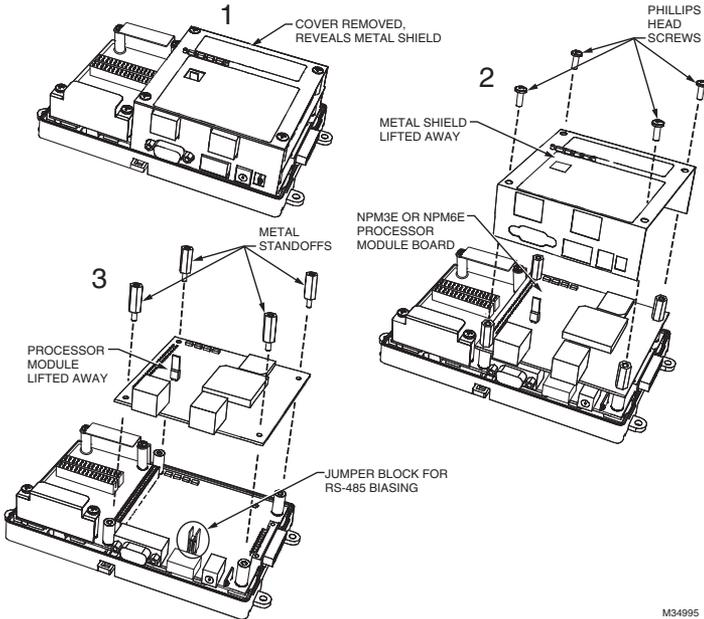

Fig. 7. Basic stages of controller disassembly.
- Set the processor module board aside. Note the jumper block on the base board behind the RS-485 port (see bottom of Fig. 7).
- Carefully replace the processor module board onto the 50-pin connector, with its corner mounting holes aligned on the four lower standoffs. Press down on the connector to fully seat the board. See Fig. 7 on page 11.